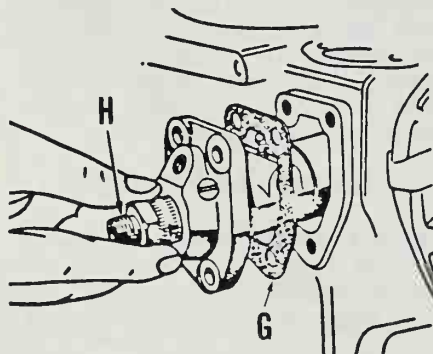

Fig. F2-2—View showing fuel injection pump timing shim gaskets (G) and delivery valve holder (H).
Injection pump timing is adjusted using shim gaskets (G—Fig. F2-2) between pump body and mounting surface on crankcase. To check injection timing proceed as follows: Disconnect high pressure line for number 1 cylinder from injection pump, then unscrew delivery valve holder (H) and remove spring and delivery valve; do not remove valve seat. Reinstall delivery valve holder (H) and connect a suitable spill pipe to valve holder. Aim spill pipe at a receptacle to catch discharged fuel. Move throttle control to full open position. Rotate engine flywheel slowly in counterclockwise direction until fuel just stops flowing from spill pipe. Measure distance from reference mark on flywheel housing to top dead center mark on flywheel. Refer to Fig. F2-3 for desired measured distance for correct injection timing. Measured distance should be within plus or minus 2 mm of distance listed in Fig. F2-3.
If injection timing is incorrect, remove injection pump and remove or install shims (G—Fig. F2-2) as required. Adding shims will retard injection timing while removing shims advances injection timing. Be sure to reinstall delivery valve and spring into pump.
R&R AND OVERHAUL. To remove injection pump, clean area around injection pump, disconnect all fuel lines from pump and immediately cap or plug all openings to prevent contamination. Remove crankcase breather, then reach through crankcase opening and disconnect governor link from pump. Unscrew pump retaining screws and remove pump being careful not to lose or damage shim gaskets (G—Fig. F2-2).